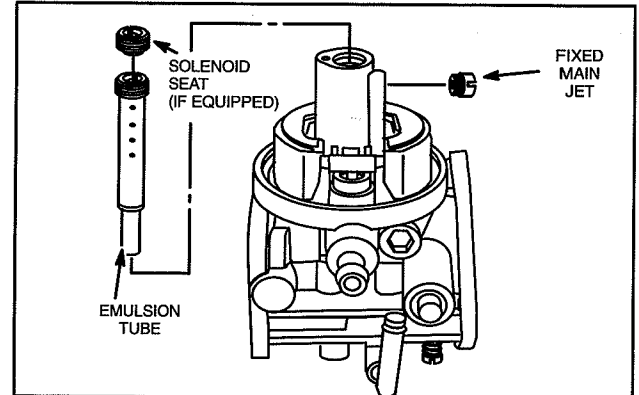

Fig. 40 – Install Emulsion Tube
17. If carburetor is equipped with anti-afterfire solenoid, install solenoid seat, Fig. 40.